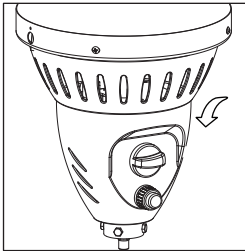

Figure 1
- 2. Press and turn the control knob to HIGH (maximum) position (counter-clockwise 90°). (Figure 1)